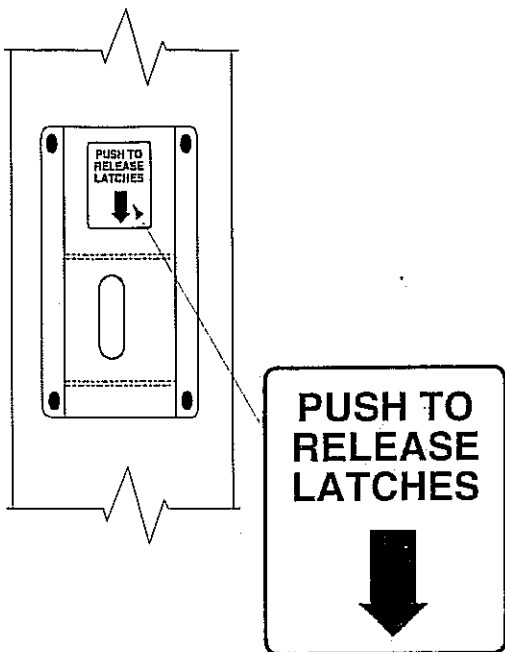

Fig. 16
21. Install latch release decal on each cover, Fig.16.